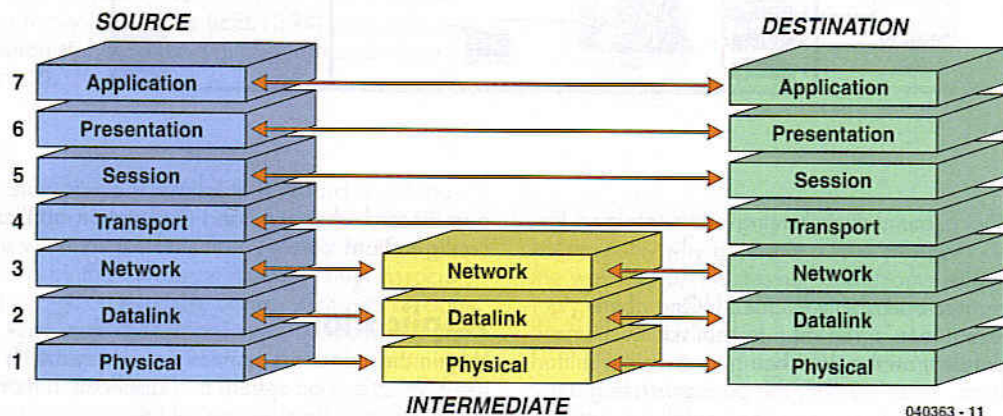

Figure 1. The Open Systems Interconnect (OSI) model developed by the ISO.
The fact that it has taken so long for the system designers to spend time on the application is not surprising in itself. Since the mid-1980s, there exists a standard describing the aspects to take into account when implementing the network functionality. At that time, the ISO (International Standards Organization) published a reference model called *Open Systems Interconnect* (OSI), see **Figure 1**. A bit further on, we'll see that besides many standards concentrating on the actual connection and/or the manner of communicating, there are now also standards giving due attention to the highest layers of the OSI model: the area where the actual application is concerned. For convenience's sake, we will divide the standards (professional networking and home automation) into three categories derived from the OSI reference model. The subdivision is into (1) the network layer; (2) the communication layer and (3) the application layer.